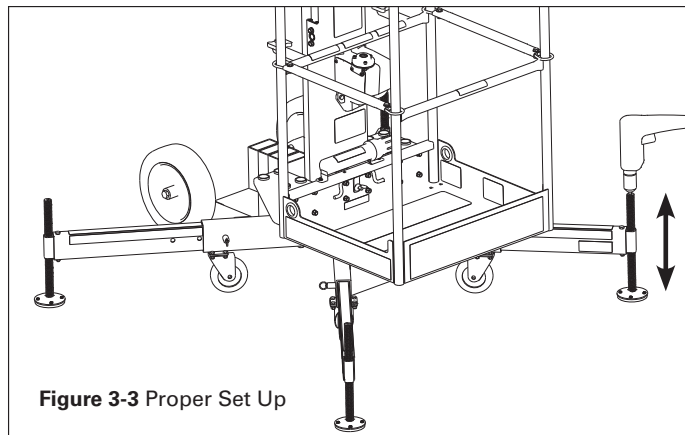

Figure 3-3 Proper Set Up
Before operating the machine, be sure the platform is fully lowered and all four (4) outriggers are properly installed (See Figure 3-3). Be sure the machine is level and on a surface capable of supporting the intended load.
3. Install front and rear outriggers in their designated positions. Using the drill and hex driver, level the chassis by adjusting each of the leveling jacks, until the bubble level is centered. (See Figure 3-3)